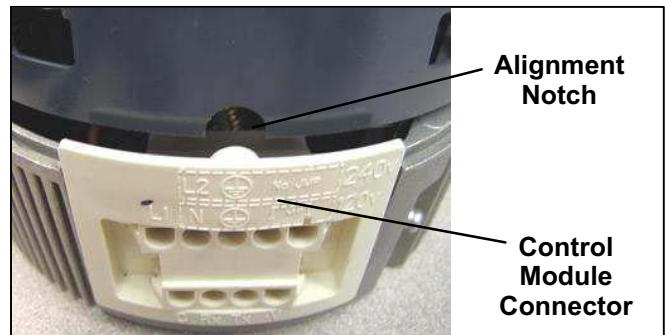

**Figure 8. Motor Mounting Bracket Installation**
- 4 - See figure 8 for proper orientation and slide motor mounting bracket onto replacement blower motor. Check dimensions given in figure 8 before securing bracket to motor using existing screw.